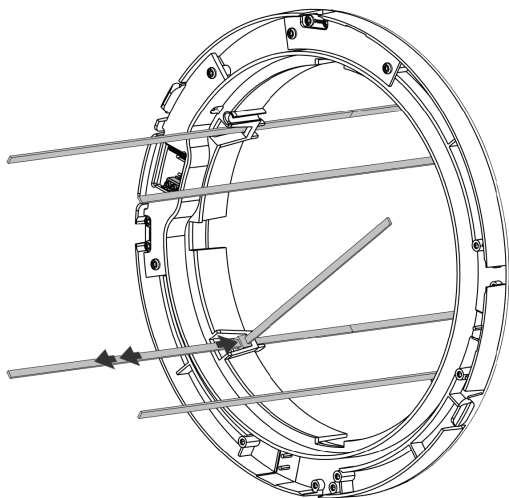

Figure 22 - The strips are pushed down
3. Tighten the wall cover against the wall by pulling on the mounting strips while the loose strips are pushed down, one after the other, see Figure 22.